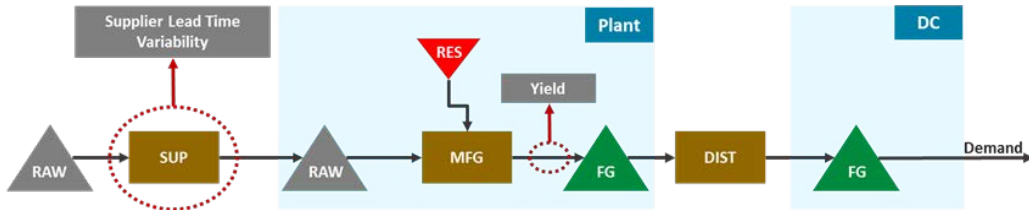

Figure 7: Paper Model of Sample Supply Chain
Figure 7 shows a simple supply chain where a raw material (RAW) is procured from external suppliers and is used to manufacture a finished good (FG). FG is further shipped to a distribution center (DC) from which customers are served.